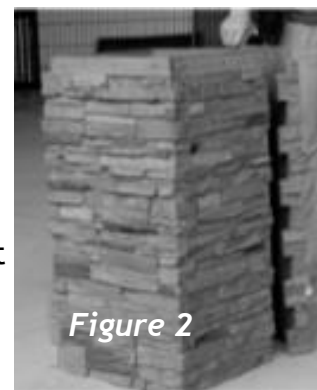

Figure 2
Interlock and dry fit all 4 sides at the finger joints. (fig. 2)
Use 4 right pieces for the 1st course and 4 left pieces for the next course. Slide corners down into the starter strip and attach all pieces as indicated on the screw hem. There are 3 screw points on the long side of the corner and 2 on the shorter end. Make sure to use 5 screws per corner. Hold the bottom edge of corner snug against the substrate while placing the screws. (fig. 2)
2) If the top course ends with the screw hems cut off, face screw each piece 1" from the top so that the cap covers the screw heads. Place adhesive on inside cutouts of cap as shown (fig. 2).